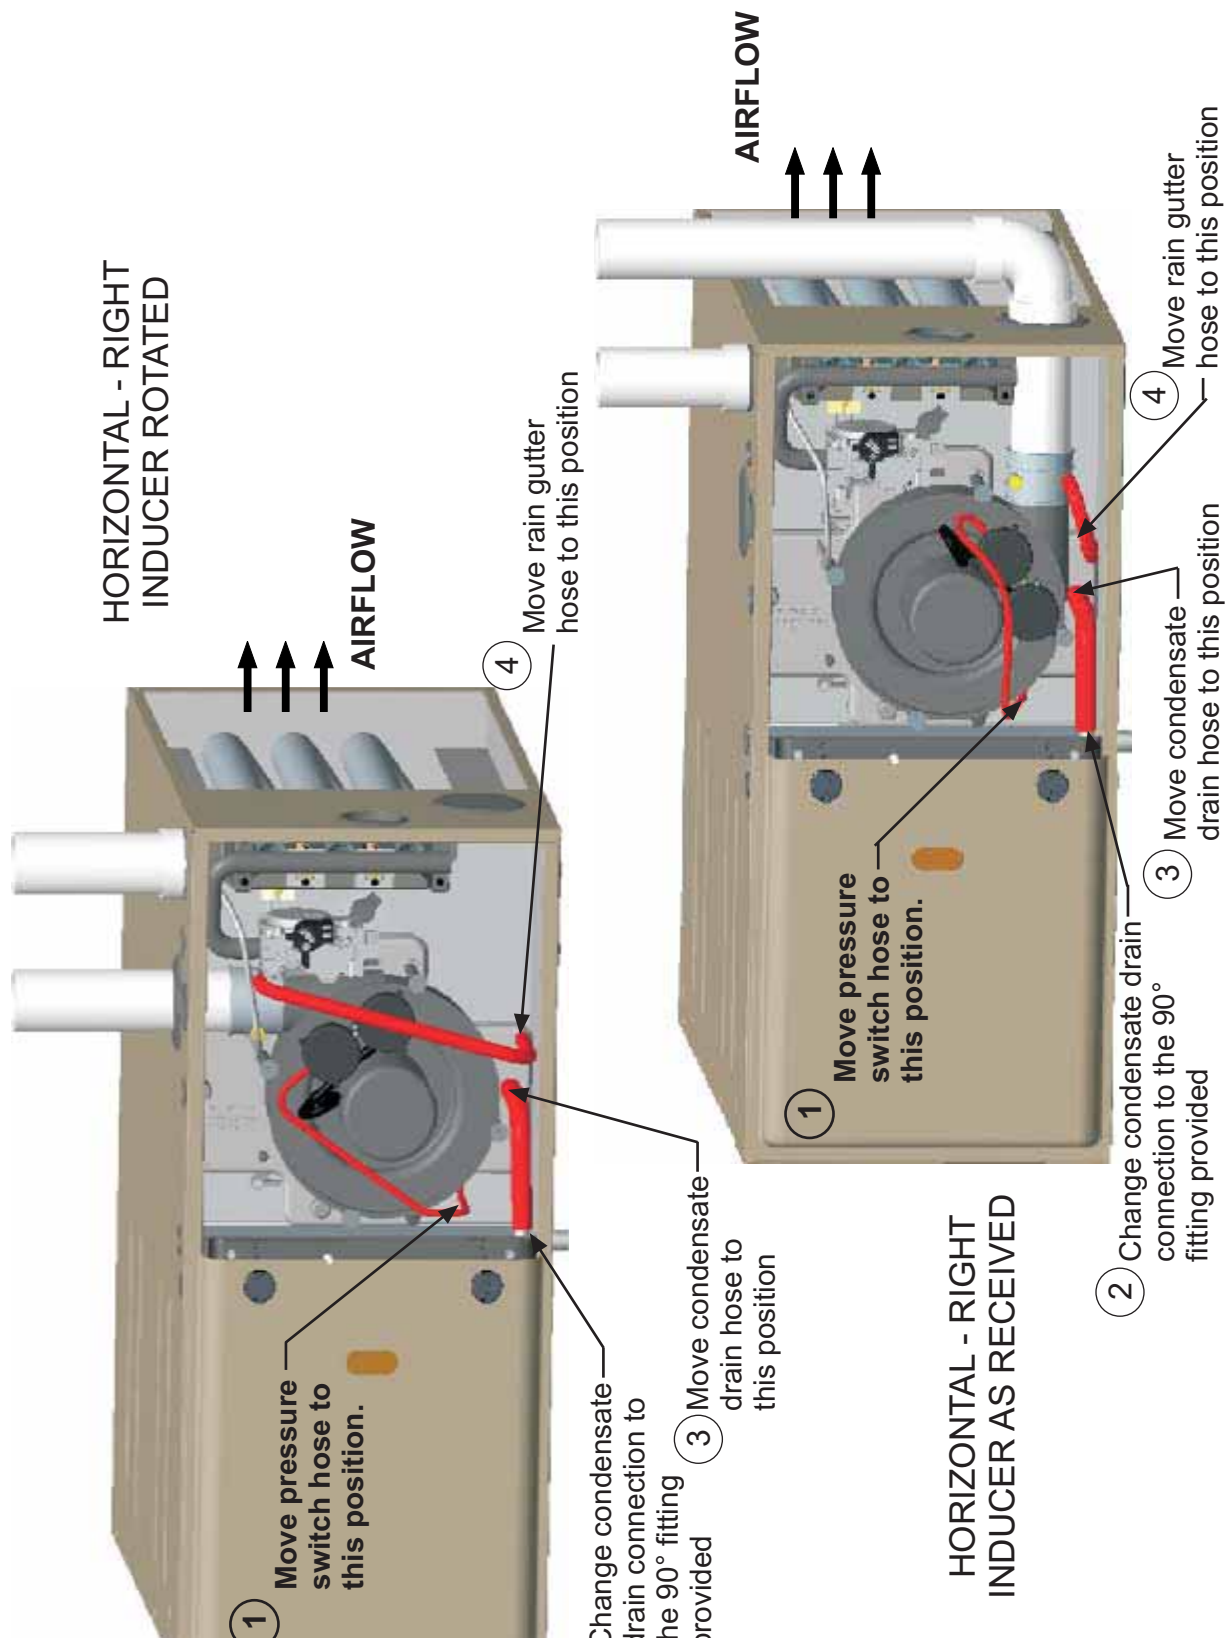

FIGURE 20: Horizontal Right Configuration
1. Drain, waste, and vent (DWV) elbows with a long radius (sweep) are recommended. Standard DWV elbows may be used, but since they have a longer equivalent length, they will reduce the total length of pipe that will be allowed. Short radius (plumbing or pressure) elbows are not allowed for venting. The standard dimensions of the acceptable elbows are shown in Figure 20.